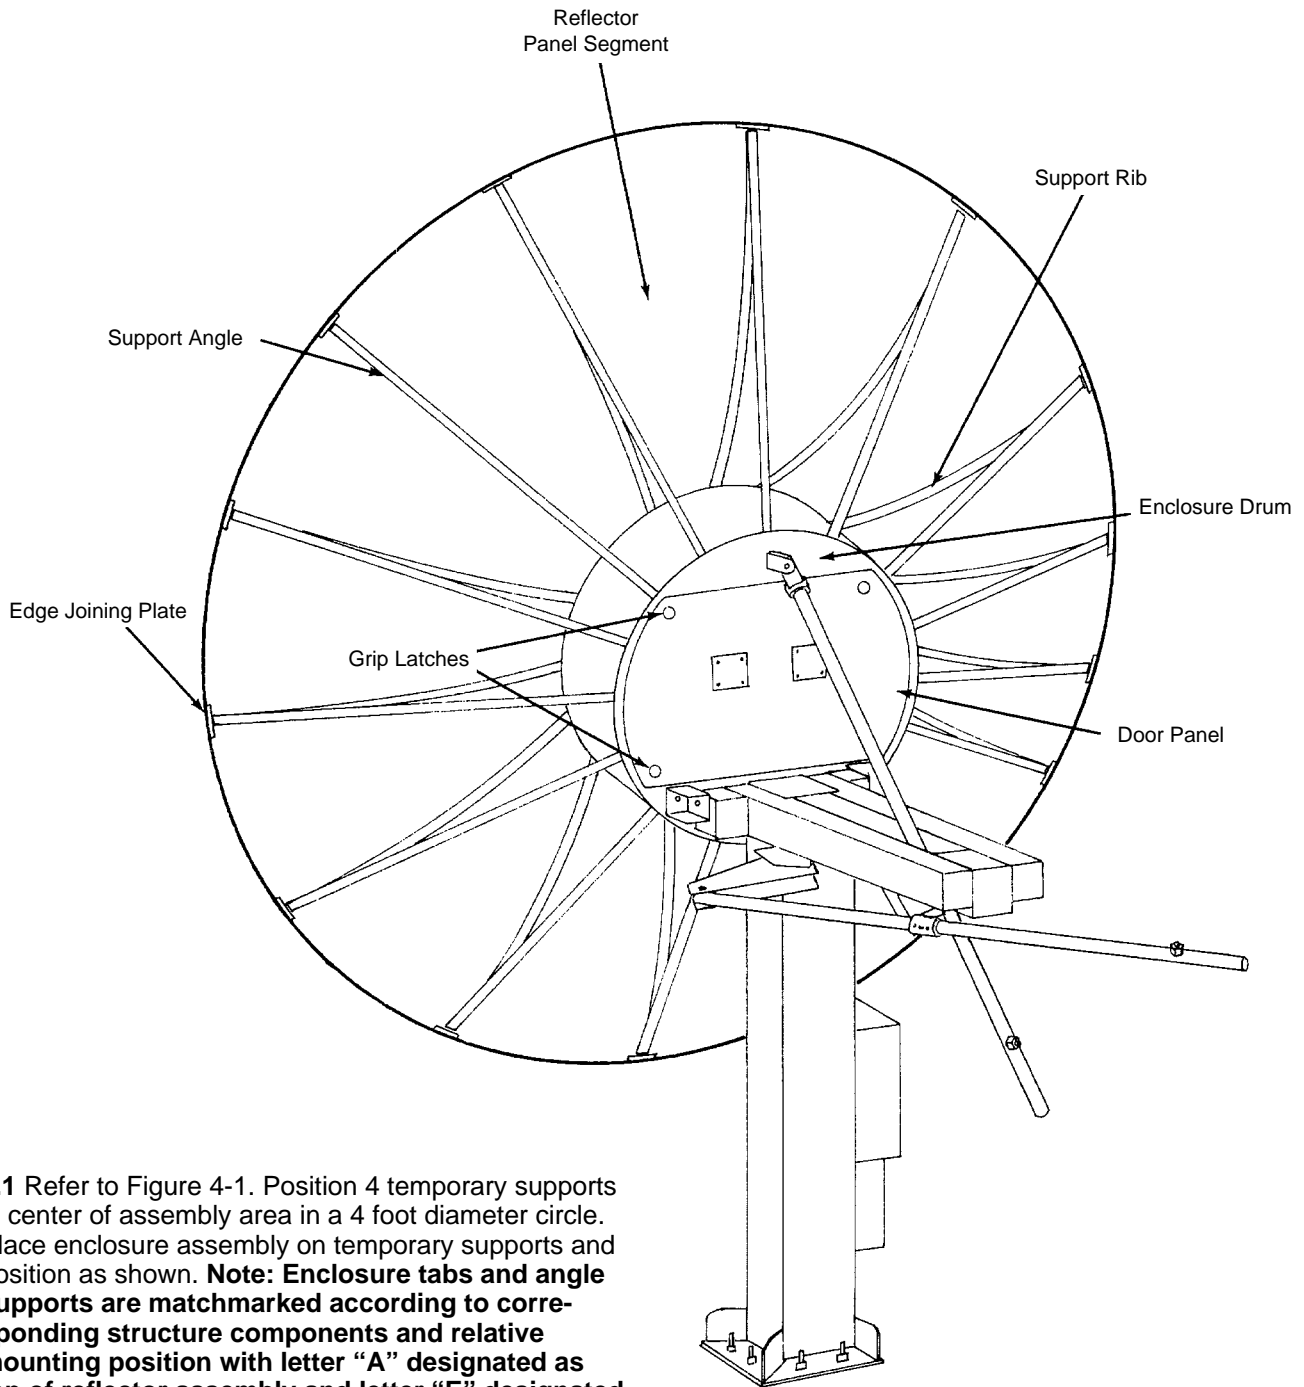

Figure 2-1
2.1 The antenna main reflector assembly, illustrated in Figure 2-1, is comprised of eight (8) precision formed aluminum reflector panel segments, corresponding aluminum support ribs, backstructure support angles, an equipment enclosure assembly and a reflector hardware kit.
Carefully remove all crating and interior blocking/bracing materials permitting removal of all main reflector assembly components. To facilitate assembly, reflector/backstructure components are packed corresponding to the sequence each is used during the reflector/backstructure assembly. Visually inspect the main reflector assembly components for evidence of any structural component damage. The equipment complement should correspond with the components illustrated in Figure 2-1 and the tabulation given in the corresponding parts listing. Any damage or shortages will prevent satisfactory assembly and installation of the antenna main reflector assembly.
3.3 Figure 2-1 illustrates the assembled main reflector assembly with the major assembly components identified. Refer to this figure in addition to the individually referenced illustrations as an aid in determining component relationship during assembly.